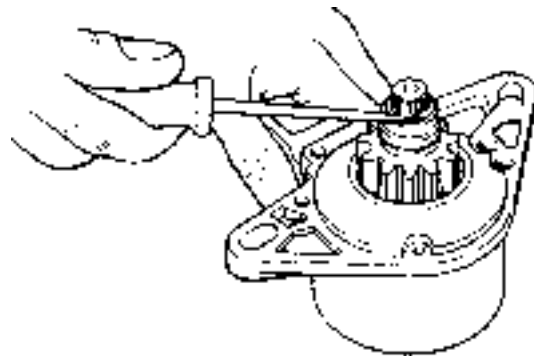

Fig. 119. Dismantling of the starter gear
7. Remove the starter gear as per Fig. 119. First remove the lock ring by tapping down the contact ring with a suitable mandrel.